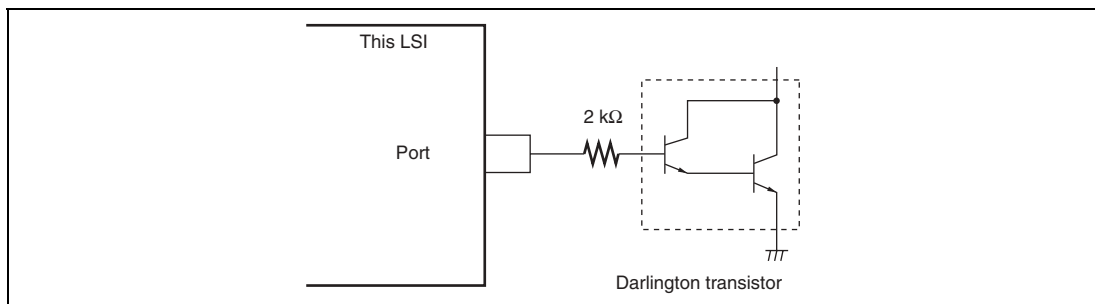

Figure 25.1 Darlington Transistor Drive Circuit (Example)
2. When driving a Darlington transistor or LED, always insert a current-limiting resistor in the output line, as show in figures 25.1 and 25.2.